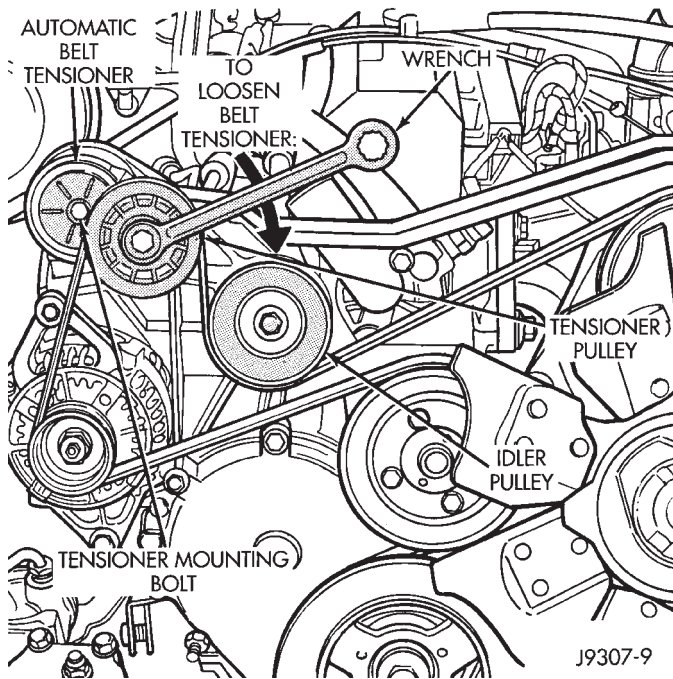

Fig. 7 Automatic Belt Tensioner—4.0L Engine With RHD
It is not necessary to adjust belt tension on RHD vehicles if equipped with a 4.0L engine. The engine is equipped with an automatic belt tensioner (Fig. 7). The tensioner maintains correct belt tension at all times. **Due to the use of this belt tensioner, DO NOT attempt to use a belt tension gauge on this engine.**
(1) Attach a socket/wrench to the mounting bolt of the automatic tensioner pulley (Fig. 7).
(2) Rotate the tensioner assembly clockwise (as viewed from front) until tension has been relieved from belt.
(3) Remove belt from idler pulley (Fig. 7) first. Remove belt from vehicle.
(4) Check condition and alignment of all pulleys.
(1) Position the drive belt over all pulleys **except** the idler pulley (Fig. 7).
(2) Attach a socket/wrench to the pulley mounting bolt of the automatic tensioner (Fig. 7).
(3) Rotate the socket/wrench clockwise (Fig. 7). Place the belt over the idler pulley. Let tensioner rotate back into place. Remove wrench. Be sure belt is properly seated in the grooves of all pulleys.